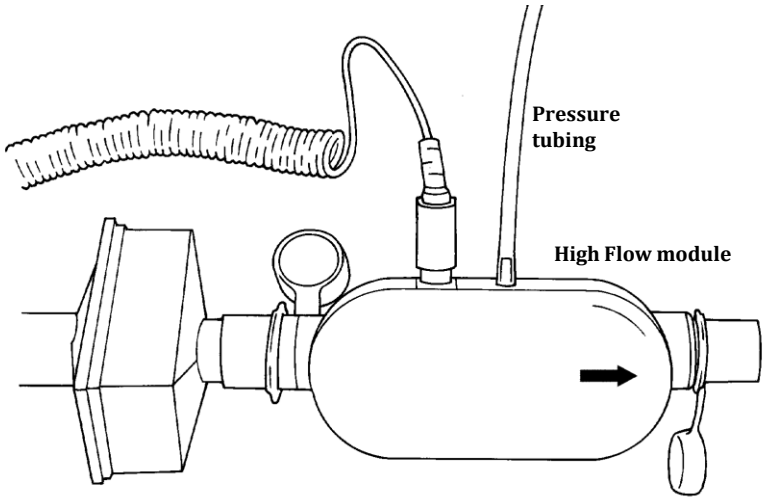

Figure 5. Attaching Pressure Tubing to the High Flow Module
3. High Flow module only: install pressure tubing (Figure 5).